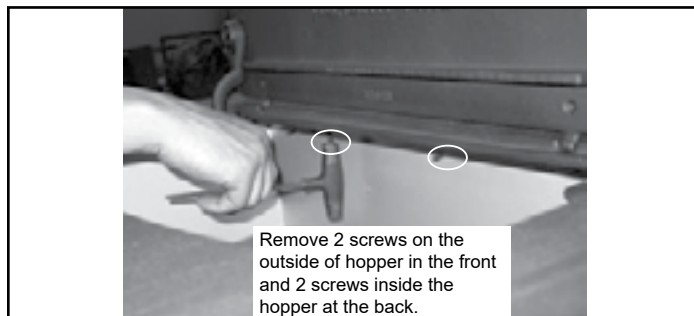

Figure 23.1
4. Remove cast top from appliance. Two fasteners are located outside the hopper on each side. The other two are located in the hopper along the back (**Figure 23.1**). Remove the rear screen of the appliance (be sure the vent is disconnected) by removing the seven screws. Lift slightly upwards as to not damage the hopper switch and set aside.